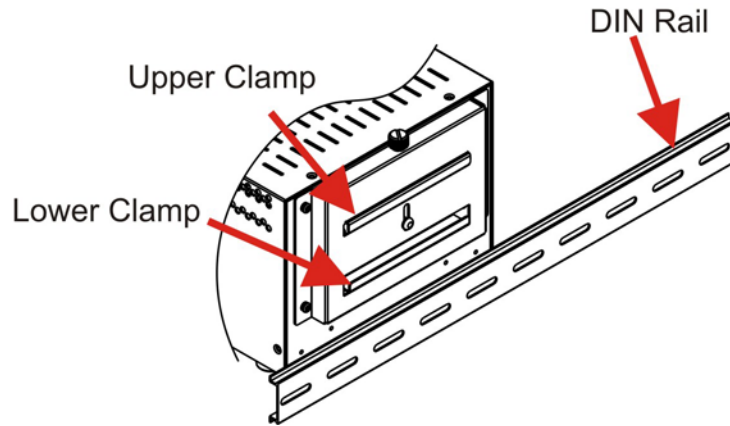

Figure 4-11: Mounting the DIN RAIL
Step 3: Place the DIN rail flush against the back of the mounting bracket making sure the edges of the rail are between the upper and lower clamps (**Figure 4-11**).